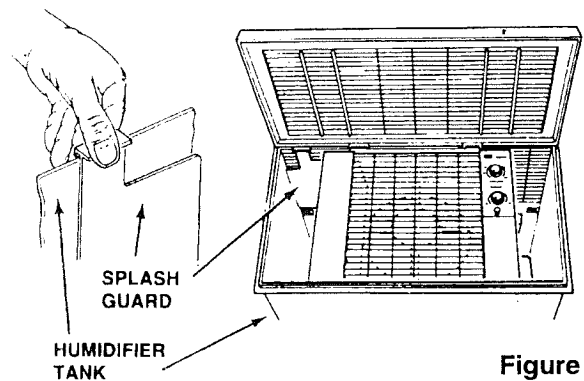

Figure 8
5. With the words "Splash Guard" facing you, position over the left rear louvers. The splash guard will simply hook on the humidifier tank. (See Fig. 8)